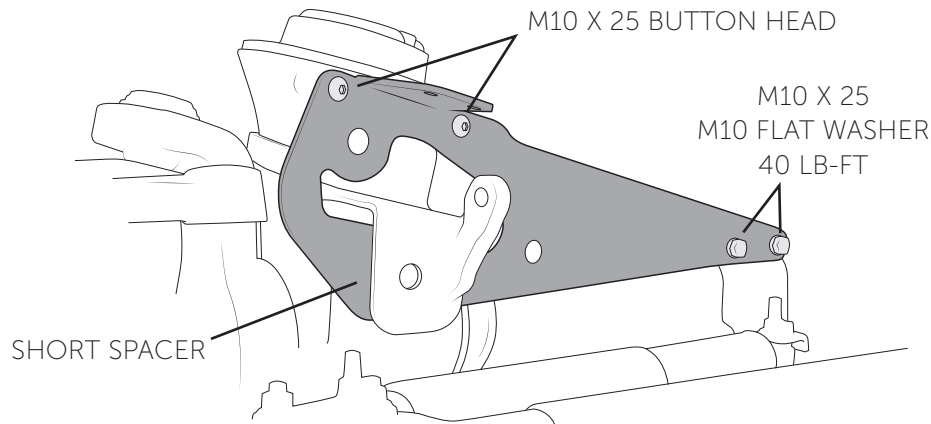

Figure 18
- B. Install the rearward track bar bracket to the new coil spring mount and axle using the supplied hardware. Leave loose at this time (fig. 18). NOTE: snug the M10 x 25 button head bolts as far as possible while still allowing for movement.